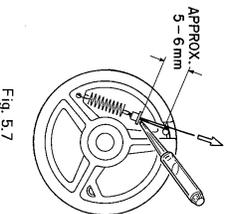

Fig. 5.7
- (4) Referring to Fig. 5.7, hook a Pulley Spring in a Front-end Pulley 430 hole. Pull the dial thread so that a space of 5 – 6 mm can be obtained between the protrusion of Front-end Pulley 430 and the Thread Guide. After rounding off the thread guide with pliers, fix it by applying AVDEL BOND #C-2. Note: AVDEL BOND #C-2 should be applied to strengthen adherence of the thread to the guide. Care should also be taken while bonding not to apply excessive adhesive to any other part.